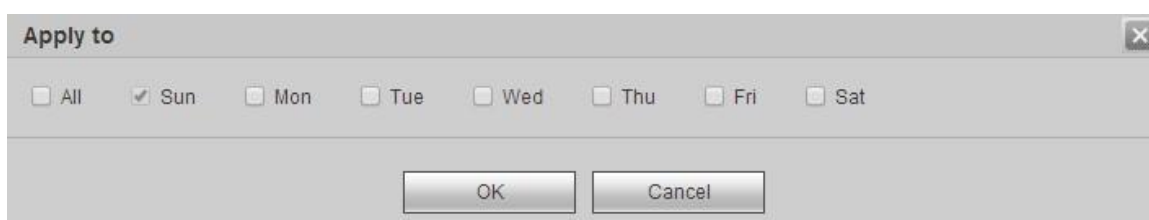

Figure 3-97
Step 4 (Optional) Click “Apply to”, and pop up Figure 3-97.